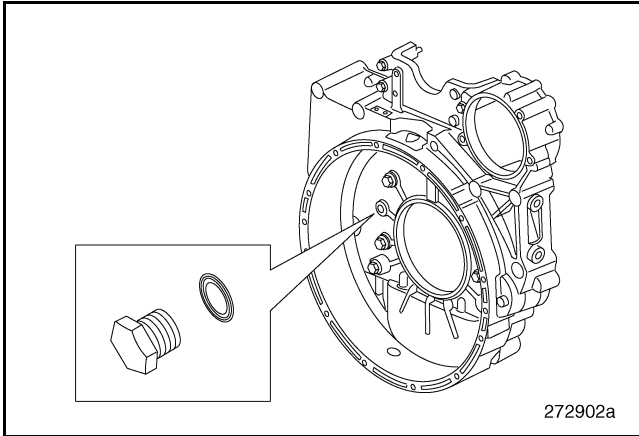

Figure 321 — Flywheel Housing Plug
- a. Using a 3/4-16 UNF x 11.5 tap, thread the hole indicated in Figure 321.